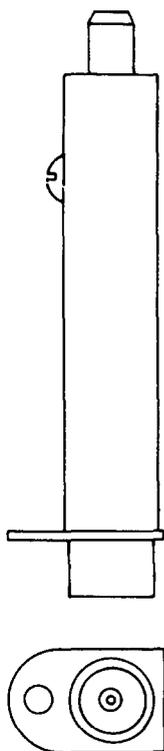

Fig. 10—560-Type Jack
2.10 **560A, B, and C:** These are coaxial-type jacks (Fig. 10).